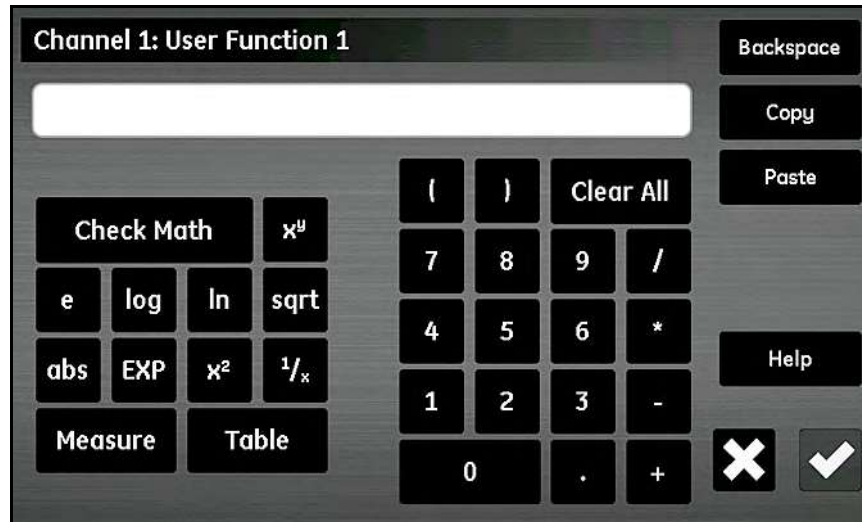

Figure 55: User Function Equation Screen
3. Tap the **User Function** button to select the function name (**Func 1**, **Func 2**, **Func 3** or **Func 4**). Then, tap the large text box just below the **Channel** button to open the *Channel x:User Function y* screen, as shown in *Figure 55* below, to enter the function equation. When the equation is complete, tap the **Check** button to return to the *User Function Setup* screen.
The buttons in *Figure 55* above permit the inclusion of standard mathematical functions, lookup data from predefined user tables (see “*Entering User-Defined Tables*” on page 64). The **Check Math** button is used to find any errors in the equation definition. Also, you may tap the **Clear All** button at any time to start over. The **Copy** and **Paste** buttons at the top right corner of the screen may be used to duplicate information from one user function to another to avoid entering the same information multiple times.